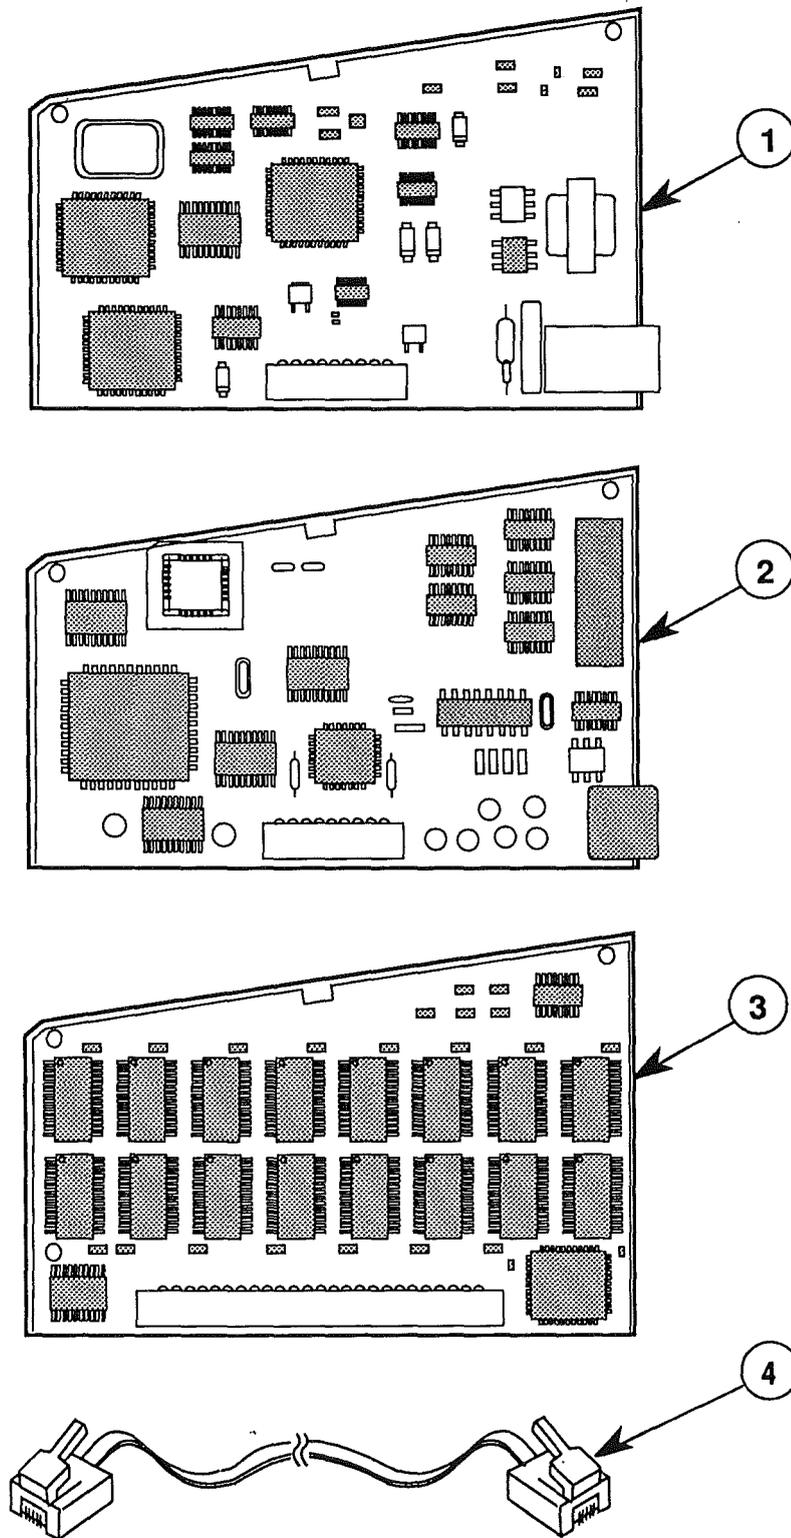

FIGURE 6
□ OPTION CARDS/INTERNAL MODEM (Figure 6)